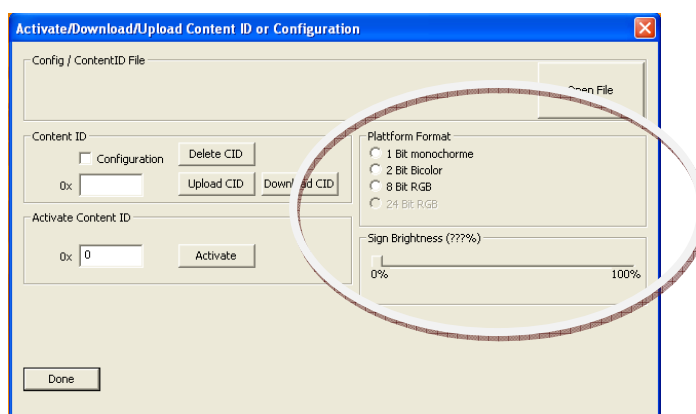

Figure 3 - Window "Activate/Download/Upload Content ID or Configuration"
- Select the Serial Connection (RS232) with the radio buttons (2).
- Select the used COM-Port with (3).
- Select the baud rate which should be used with (4).
- Enter the right value as FuturitCom2 address in field (8).
- Click the "Connect" button (7). → After successfully connecting to the slave, the caption of button (7) changes to "Disconnect". After that the connection is established successfully.
- Click on the button (20). The following window appears (Figure 3).